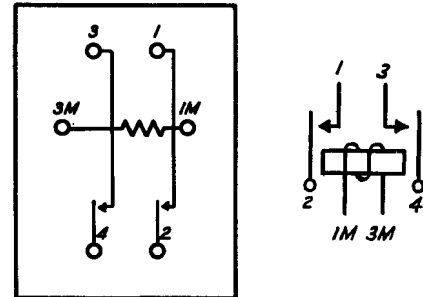

**Fig. 84 – Winding and Spring Terminal Arrangement (terminal side) — KS-5350 and KS-5451 Relays Having Four Horizontal Rows of Terminals**
**2.88** The contacts in any vertical row of terminals number from the top down beginning with 1 in the right row of terminals. Where the top terminal in this row has a letter designation in accordance with 2.89, 2.90, and 2.91, the number 1 is applied to the terminal directly below it. (See Fig. 84.)
**2.91** Where the relay has either four or six horizontal rows of terminals the upper middle row of terminals is designated by the letters TM preceded by the same number as the nearest terminal above. (See Fig. 84 and 88.)